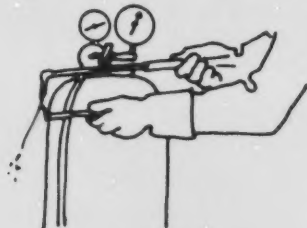

Figure 18-13. Lighting Acetylene
k) Open the acetylene needle valve slightly and light it with a lighter, not with a match (Figure 18-13).